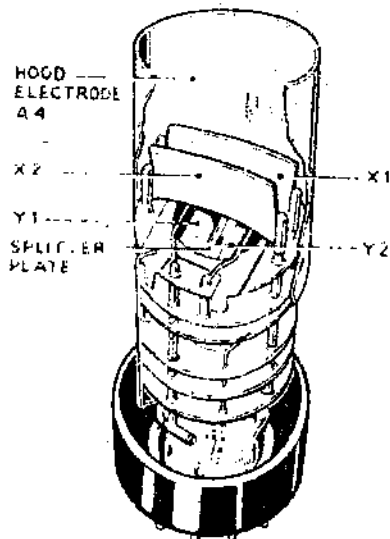

Fig. 5.
12. The cathode-ray tube itself is of a conventional type except that there is a splitter plate across the opening in the third anode (see fig. 5). This splitter plate, which is at about earth potential, splits the stream of electrons into two separate beams, each of which is controlled independently